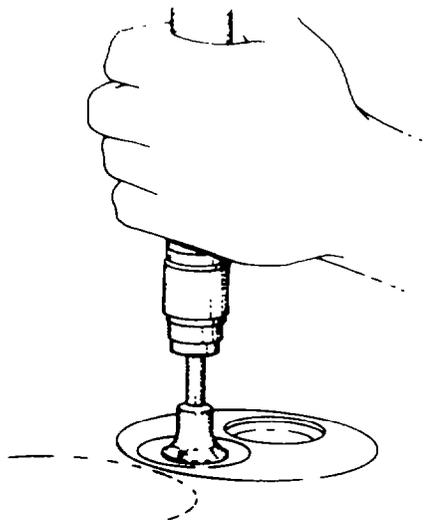

Fig. 43 — Lapping-in Valves
- e. Place the valve back in the head and oscillate it to remove surface imperfections (see fig. 43).